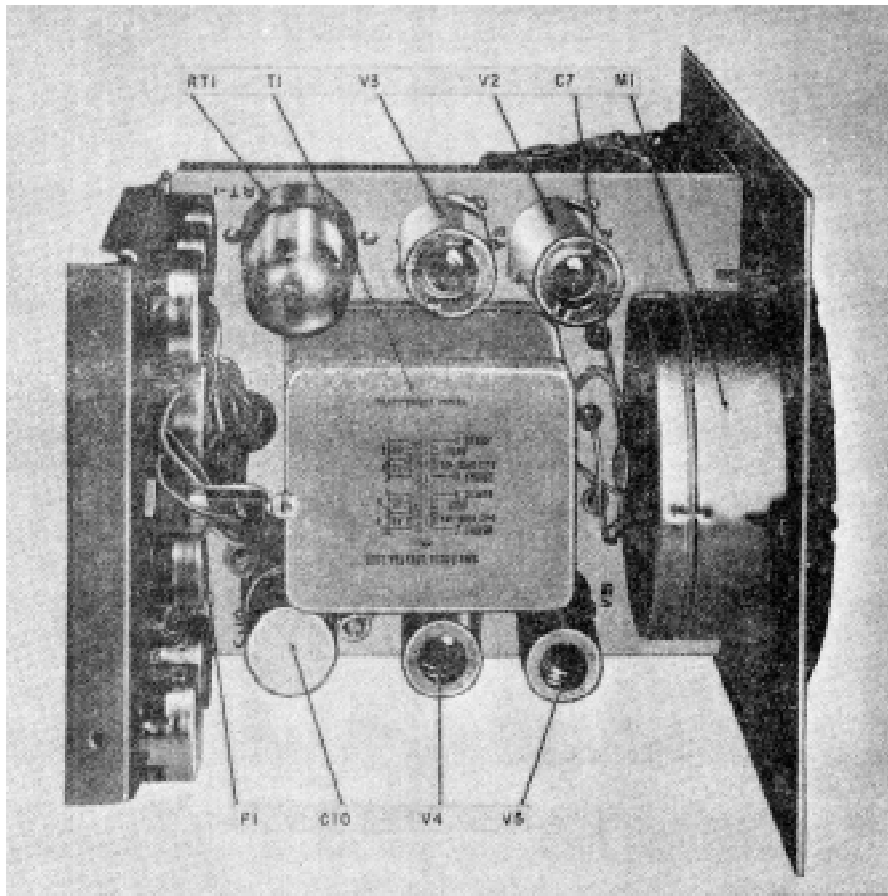

Figure 6-1. Multimeters ME-26B/U, ME-26CIU, and ME26DIU chassis, top view.
(3) *Troubleshooting chart.* The trouble symptoms listed in the chart (para 6-4b) will aid in isolating the trouble to a component part. Component location is shown in figures 6-1 through 6-7.
(2) If the resistance is approximately half of the normal indication (4,900 ohms), check for shorted capacitor C10 (fig. 6-1 and 6-8).
a. General. In the troubleshooting chart (b below), procedures are given for localizing and isolating troubles to a stage or part. Parts locations are indicated in figures 6-1 through 6-7. Voltage and resistance measurements are shown in figures 6-8 through 6-11, overall schematic diagrams are shown in figures 9-3 and 9-4. When trouble has been localized to a particular stage, use voltage and resistance measurements to isolate trouble to a particular part.